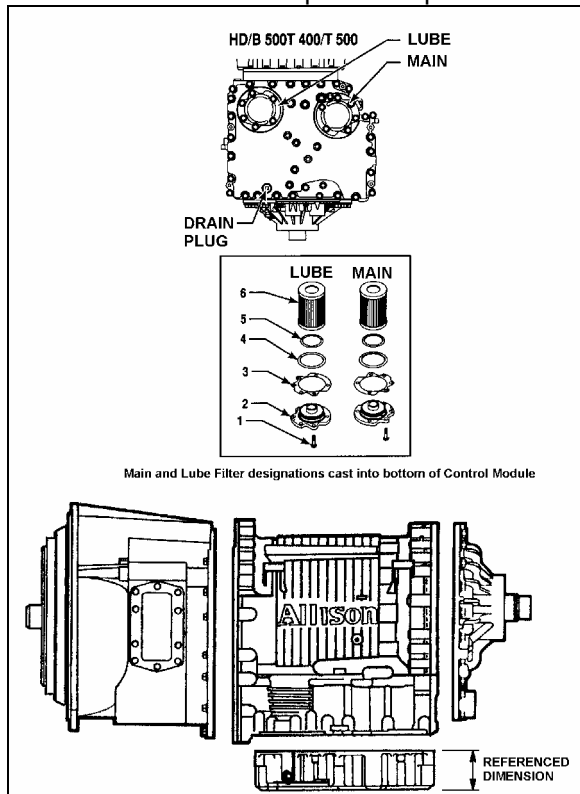

FIGURE 7: DRAIN PLUG AND FILTERS
2. Remove the drain plug from under the transmission (Fig. 7) and allow the oil to drain
3. To replace the integral filters, remove twelve bolts (6 on each cover), two filter covers, two O-rings, two square cut seals and the two filters from the bottom of the control module (Fig. 7).